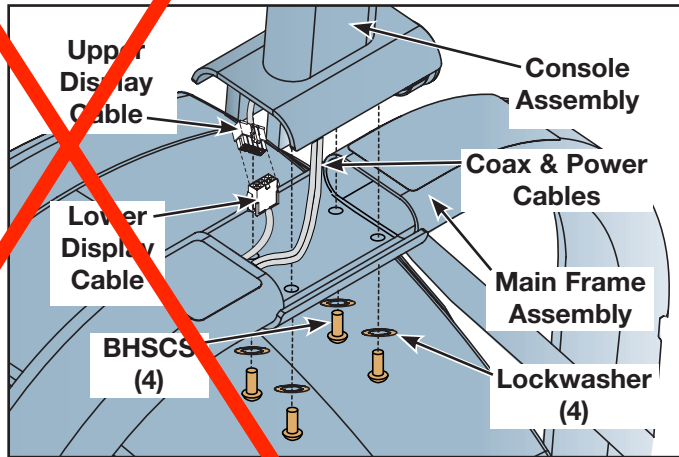

Figure 21
B. Plug the upper display cable into the lower display cable in the main frame assembly. See Figure 21.
C. With 8" of coax and power cables (B) exiting the top of the console assembly, pull the extra coax and power cables out of the bottom of the main frame.
D. Place the console assembly in the correct position on the main frame assembly and hand thread each of the four BHSCS and four lockwashers. See Figure 21.